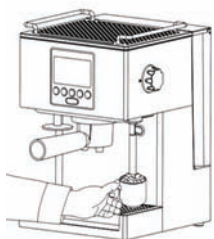

Fig. 8
- 15.7. Place the steam nozzle (11) in the milk pot (**Fig. 8**) in such a way that the nozzle is about 1/2 cm below the level of milk and activate the steam trigger turn the steam control (13) to position , i.e. turn it counterclockwise, so the sign  will cover the casing of the espresso machine.
- Close off steam as soon as milk is heated up to 60–65°C turn the steam control (13) to **OFF** position, i.e. turn it clockwise, so the sign **OFF** will cover the marker on the casing of the espresso machine.
- Remove the pot. Immediately wipe the steam nozzle (11) and its ending with a clean, wet cloth, as well as rinse it with a small amount of steam as before the process of milk foaming.